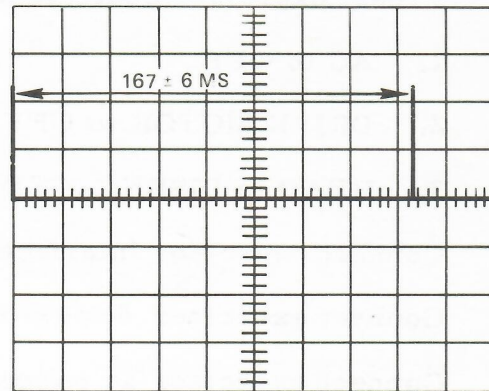

Figure 2-16. Index Pulse Period
- c. Set oscilloscope as follows to monitor INDEX pulse period, as shown in Figure 2-16.